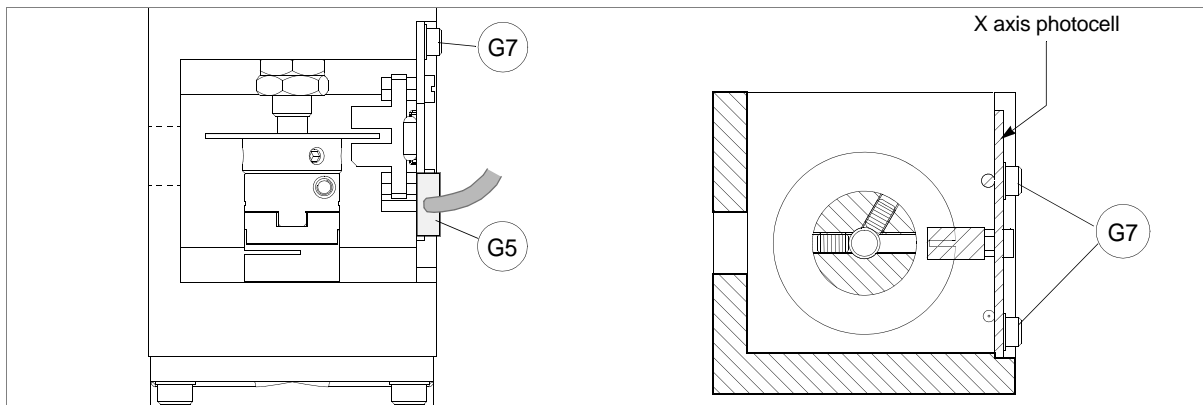

Fig. 149
- 6) remove the worn sensor and fit the new one so that it almost touches the bottom (fig. 149).
- 7) disconnect the photocell wire (G5) (fig. 149).